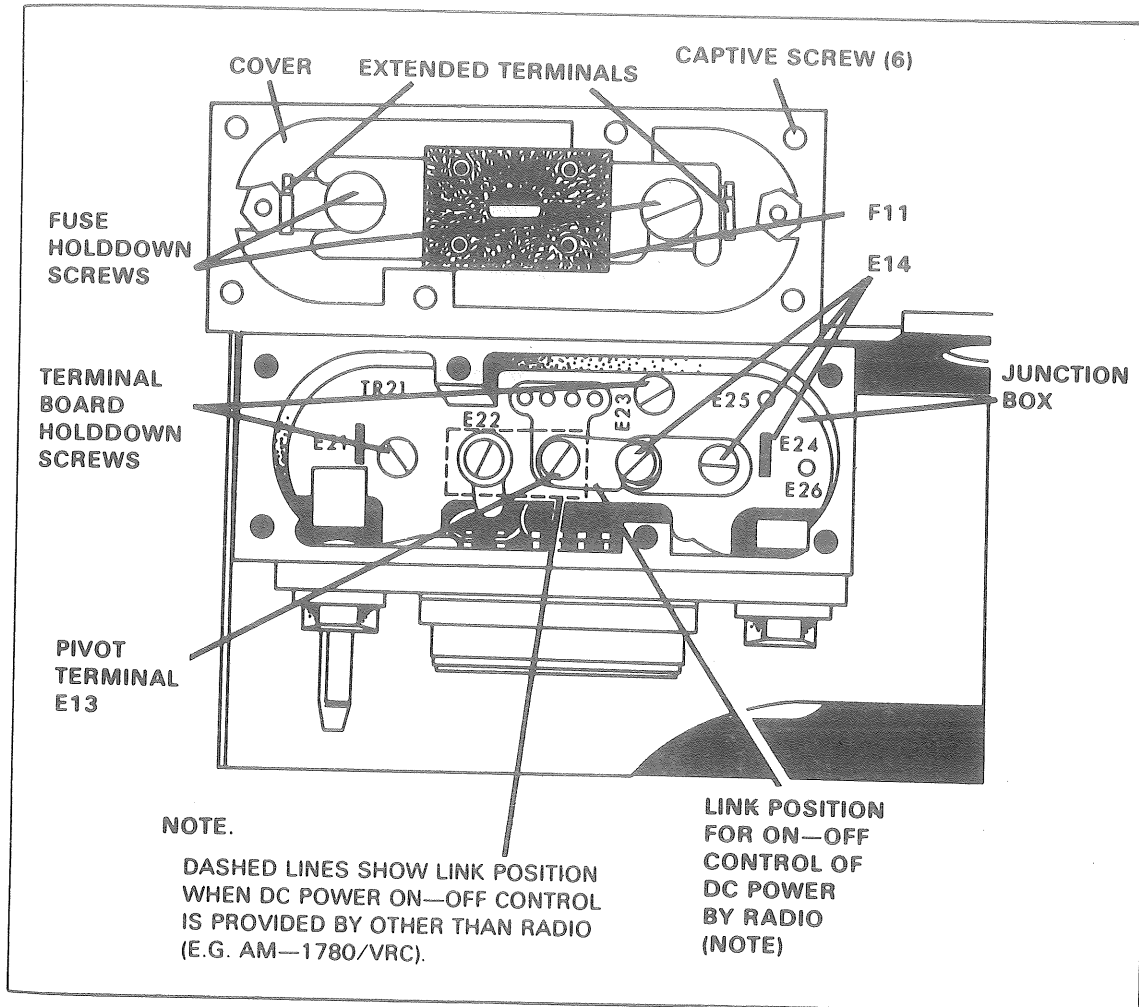

Figure 2. MT-1029 Junction Box (Link).
- a. Insure that the mount link is in the proper position. Power to the radio set is controlled by the Amplifier AM-1780 (fig 2).